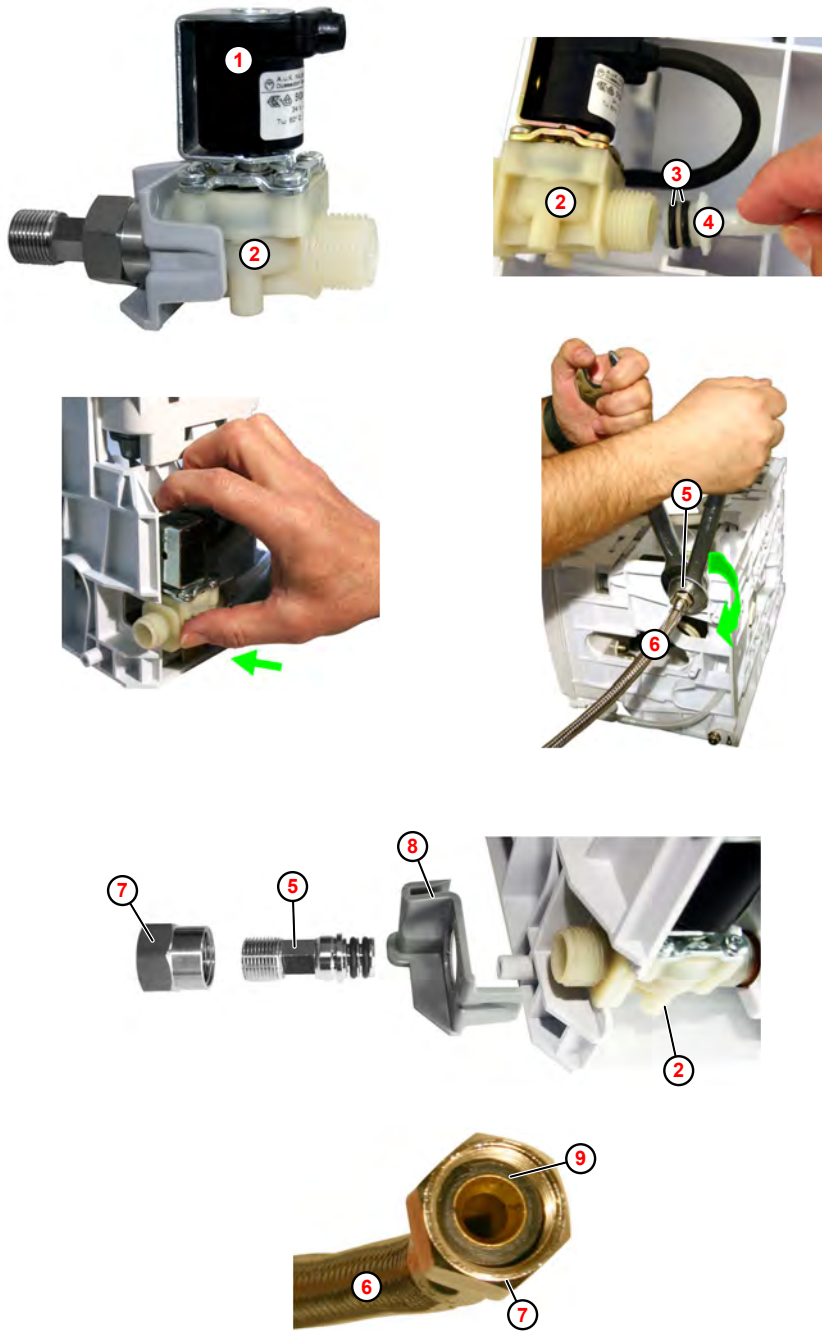

Fig. 18: Solenoid valve assembly
1. Press the coil (Fig. 18 , ①) against the valve body ② while turning it approx. 30° clockwise (to the right) until the coil audibly clicks into place.
2. Clean both O-rings ③ on their connecting nipples ④ using a lint-free cloth.
3. Guide the connecting nipple ④ into the valve ② until it is flush with the valve housing.
5. Attach the fastening element ⑧ to the valve body and housing.
6. Carefully insert the connection adapter ⑤ into the valve body (tight).
7. Screw the union nut ⑦ onto the valve body.
8. Screw the inlet hose ⑥ onto the connection adapter.